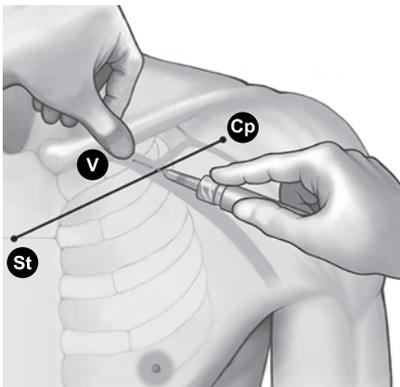

Figure 8. Location of thumb and needle entry
4. Press a thumb against the index finger and project 1–2 centimeters below the clavicle to shield the subclavius muscle from the needle (when hypertrophy of the pectoralis muscle is apparent, the thumb should project about 2 centimeters below the clavicle because the subclavius muscle should be hypertrophied as well) (Figure 8 Location of thumb and needle entry on page 24).